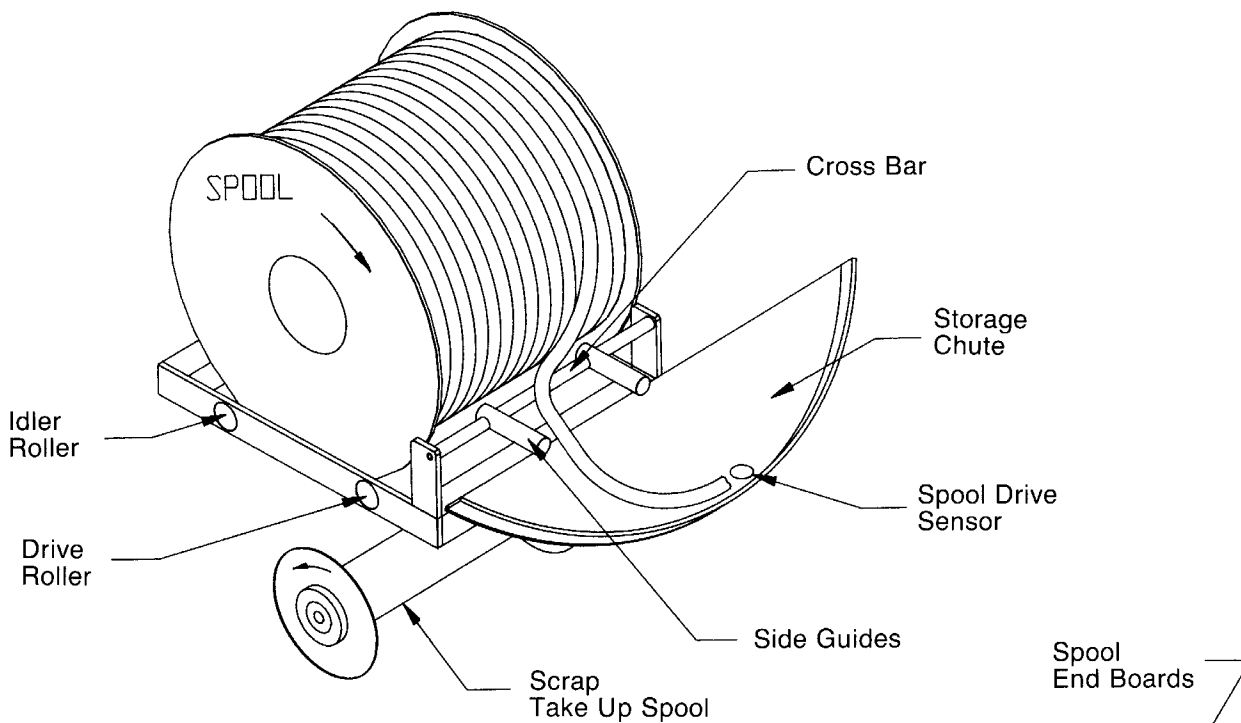

Figure 1
When viewing from the back of the machine, the spool of Twin Loop wire will rotate in a clockwise direction (See Figure 1). For loading a new spool the following steps are recommended:
3. Unspool approximately 5 feet of wire from the top of the spool. Place the wire over the top of the cross bar and between the two side guides (See Figure 1).